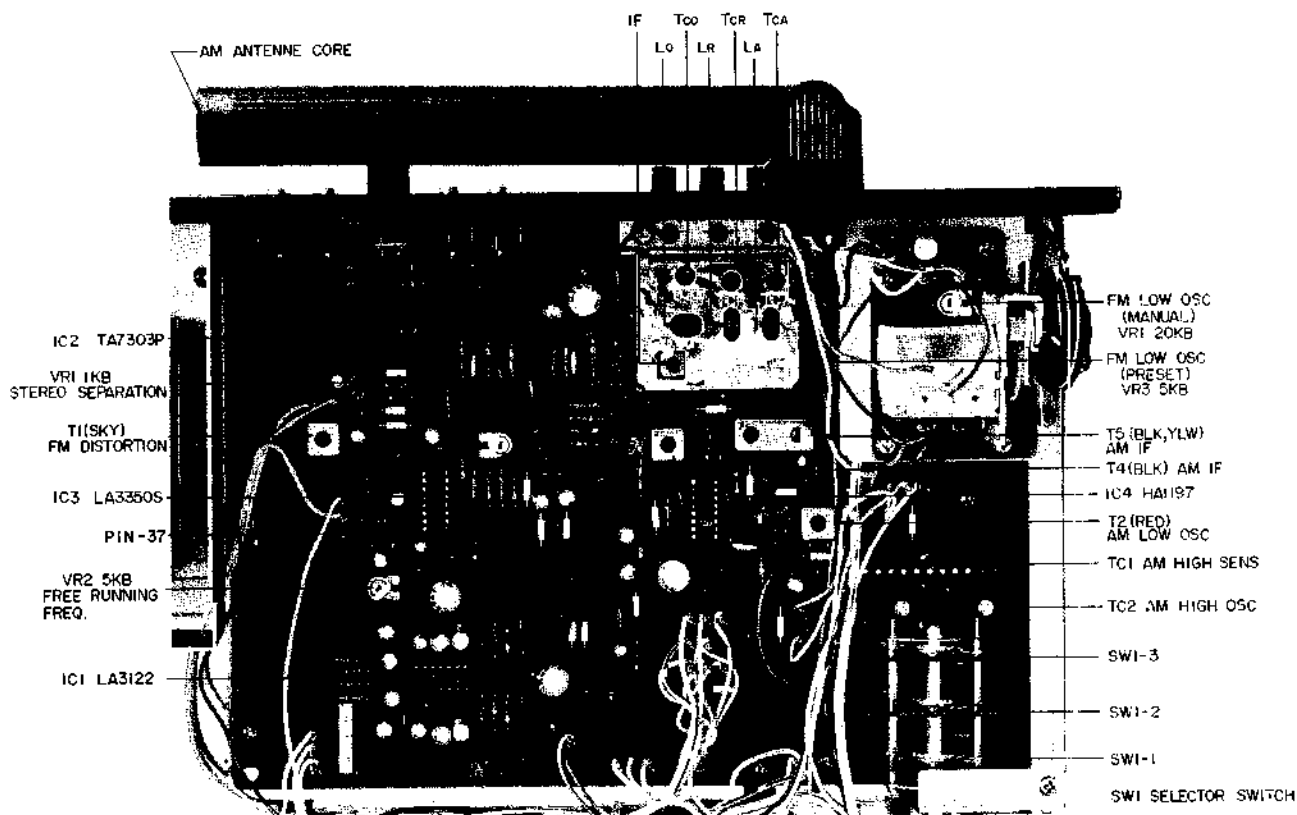

Fig. 21 Model AC-3800
(Refer to Figs. 21, 22)
2. MW TUNER SECTION ADJUSTMENT FOR MODEL AC-3800 (Refer to Fig. 21)